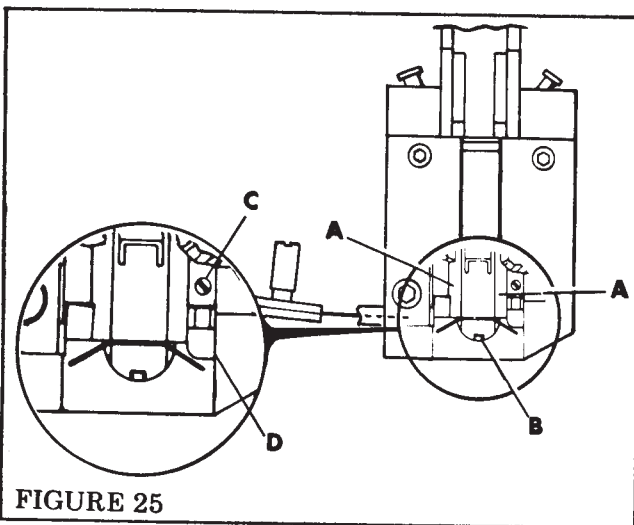
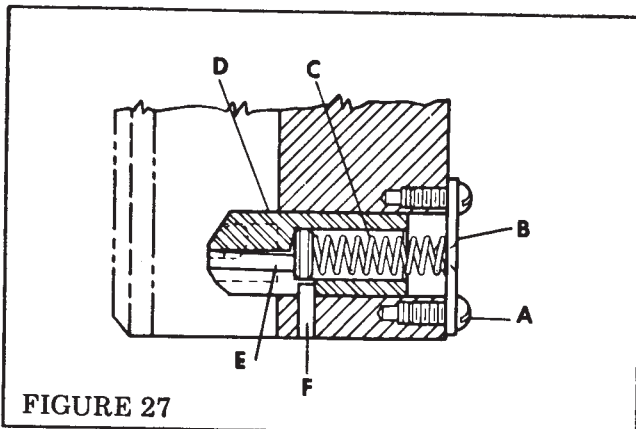

FIGURE 25
FIGURE 27
After a stitch has been driven, a new length of wire is fed into the stitching head and comes to rest with equal lengths on each side of the anvil. This part forms the support over which the wire is bent into a U shape by the former legs (Index A, Figure 25).
The anvil (Index D, Figure 27) is backed by an anvil spring (Index C, Figure 27) which keeps it constantly in position to receive the wire. If this spring breaks and the anvil is not kept in proper position, the wire comes out in a single straight piece.
The anvil can be removed by loosening the two anvil plate screws (Index A, Figure 27) which hold the anvil plate (Index B, Figure 27) in place. The spring is removed by the same procedure. Before installing a new anvil or replacing the old one, clean and oil the hole in the slide box in which the anvil fits. If installing a new part, check to see that it is the proper size for your machine by comparing with your old one. There is only one way to insert the anvil since it is slotted on the bottom to receive the anvil stop pin (Index F, Figure 27). This pin prevents the anvil from rotating or moving too far forward. If the slot at the bottom of the anvil becomes dirty, the anvil may bind. The anvil spring then cannot push the anvil to its forward position where the wire groove in the anvil assists to guide the wire into the former plunger. Buckling of the wire results. Clean the slot at the bottom of the anvil to overcome the binding. After installing, press against the anvil to see that it retracts freely.
Since worn former legs (Index A, Figure 25) can cause similar symptoms, refer to page 23.
The end of the wire must be held firmly while it is being cut off by the cutter blade. This function is performed by the Former Plunger (Index D, Figure 25) on those stitchers equipped with Former Plunger or by the Wire Gripper Pin (Index E, Figure 27) on those models having the gripper type anvil. Without the pressure exerted on the wire by the Former Plunger or the Gripper Type Anvil, the wire will spring forward. This causes (1) a short left stitch leg or (2) a long right stitch leg or (3) the wire to fall out of the anvil (Index B) as a straight piece or (4) the wire to slip to one side so that it does not line up with the groove in the former legs.
If the plunger is stuck in the housing, loosen the plunger screw (Index C, Figure 25) and pry the plunger loose. The plunger often sticks because it is dirty or requires oiling. Place a drop of oil on the plunger each time the rest of the machine is lubricated.
When the stitcher is not equipped with a former plunger for holding the wire firm while being cut off, the anvil is probably of the gripper style. This style contains a wire gripper pin (Index E, Figure 27) for holding the wire firm when it is being cut. Either type of anvil is removed or installed in the same manner and uses the same anvil spring, but before installing the gripper type anvil, the wire gripper pin must be fully seated in the anvil. Turning the slotted head of the wire gripper pin with a screwdriver will help to seat the pin quickly.